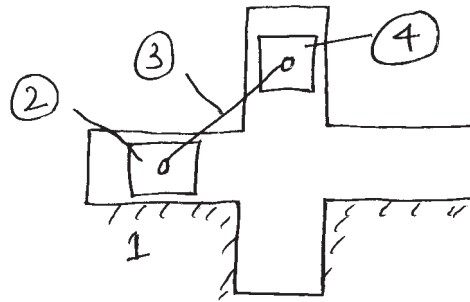

Fig. No. 1
- a) Identify Kinematic pairs and name it. Refer Fig. No. 1